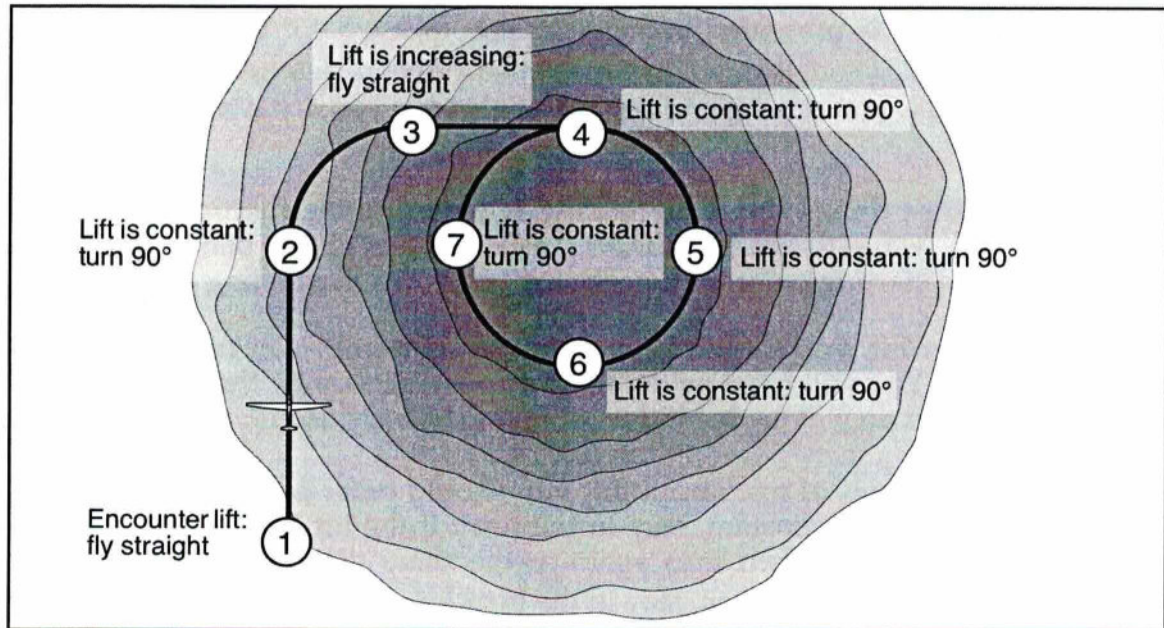

Figure 7.5 – Thermaling algorithm as applied to an ideal thermal. The darker areas indicate stronger lift.
Let’s see how this applies to an “ideal” thermal. In Figure 7.5, the pilot encounters lift at ①, so continues to fly straight. The lift peaks at ②. The pilot senses at this point that the glider is no longer accelerating upward. In other words, the lift is constant.